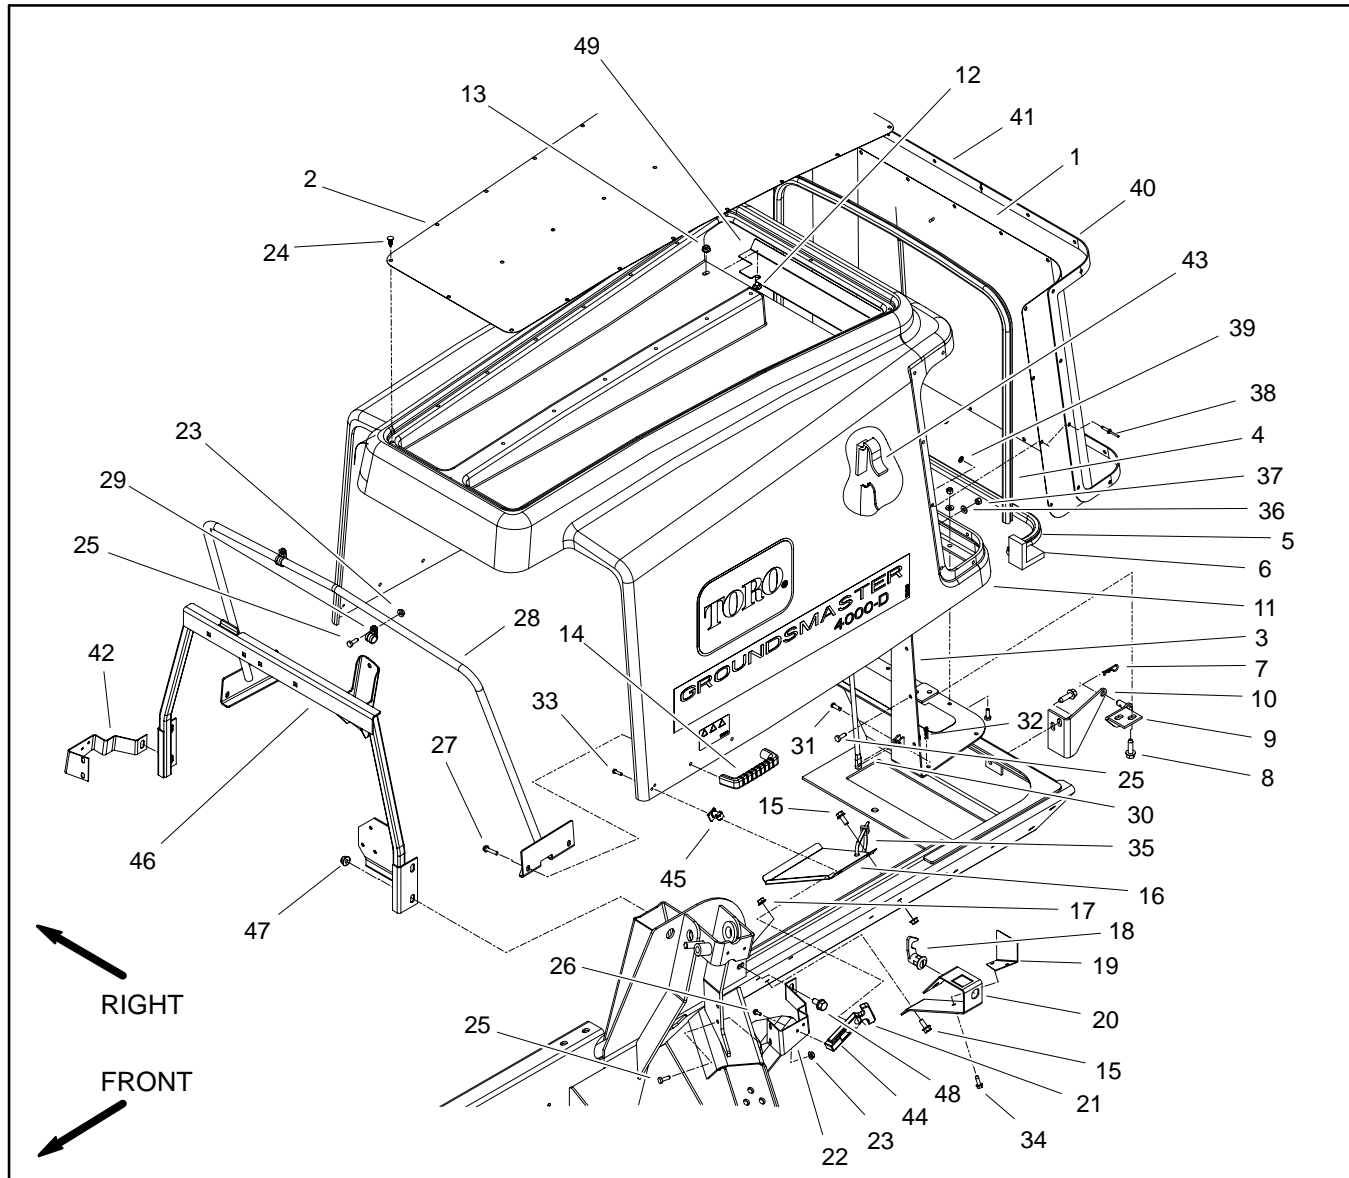

Figure 23
2. Remove hood using Figure 23 as a guide.
1. Install hood using Figure 23 as a guide.